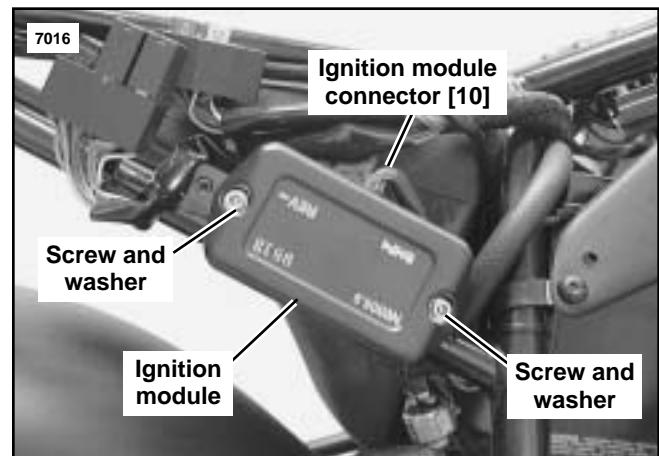

Figure 3. Ignition Module
4. See Figure 3. Disconnect ignition module connector [10] from main wiring harness.